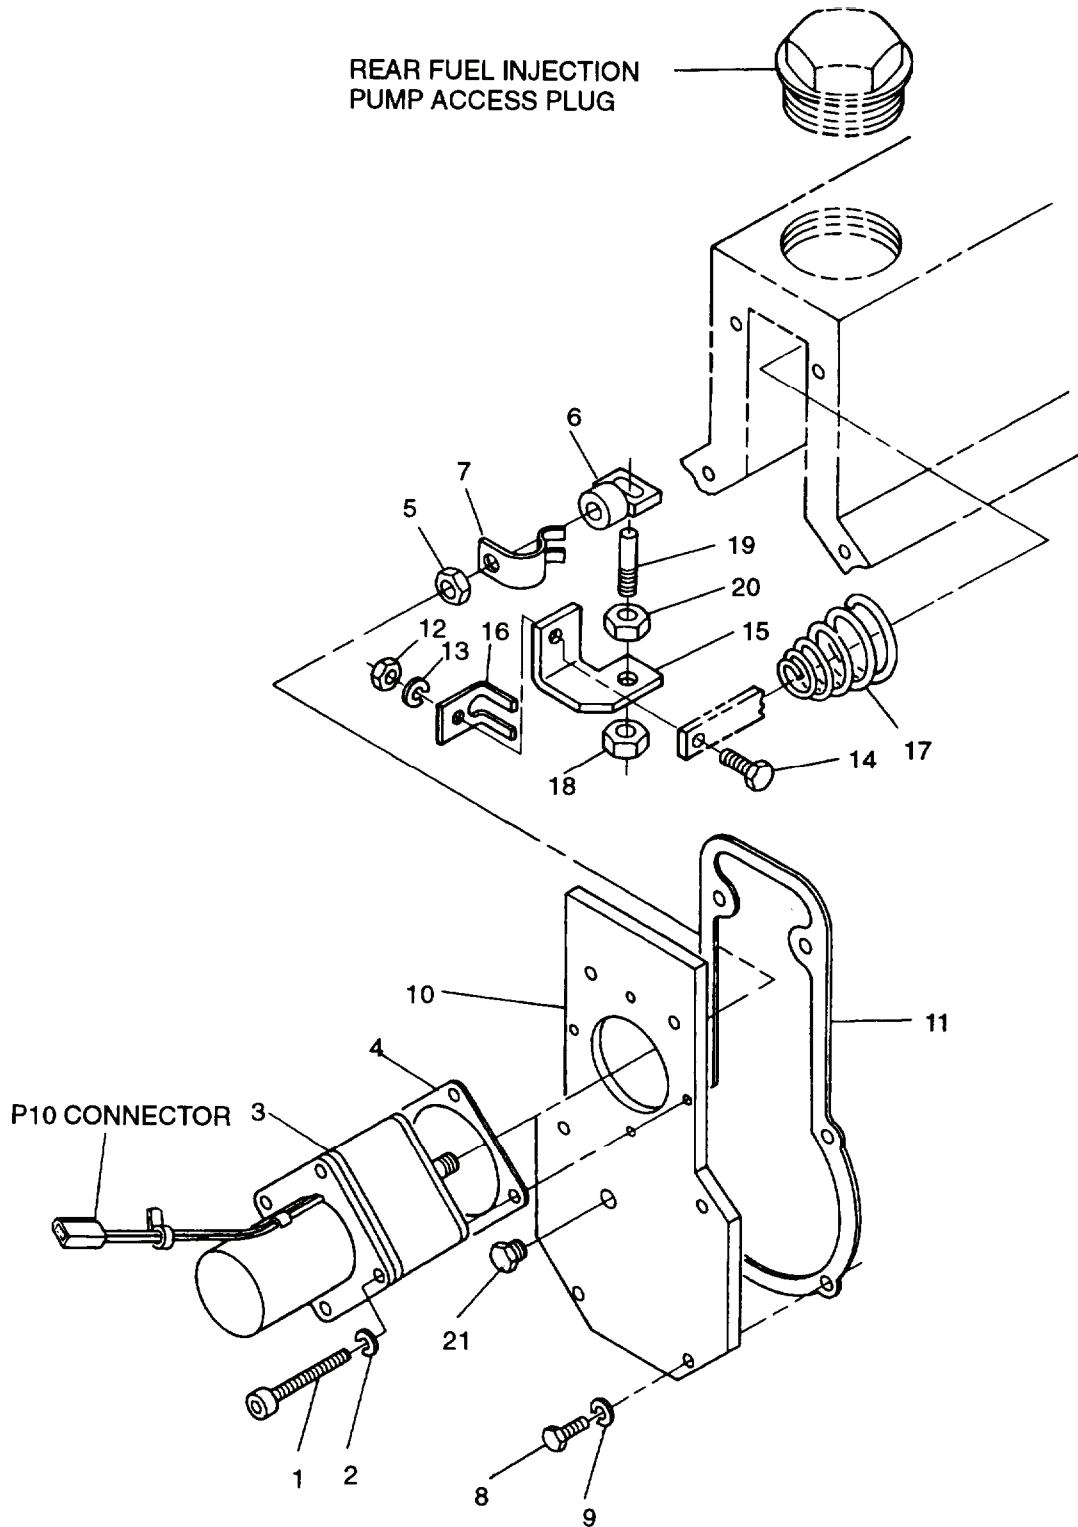

Figure 4-6. Governor Actuator Assembly – MEP-804A/MEP-814A.
- c. Open right side engine access door and disconnect connector P10 (Figure 4-6) from engine electrical harness.
- d. Tag and disconnect connector P10 (Figure 4-6) from engine electrical harness.
- f. Remove Allen head screws (1) and lock washers (2) securing governor actuator (3) to mounting plate (10). Discard lock washers (2).
- g. While looking through rear fuel injection pump access plug hole, tilt governor actuator (3) down so that clevis (6) clears stud (19) of injection pump rack linkage. Remove governor actuator (3) and gasket (4) from fuel injection pump.
- h. Loosen nut (5) and unscrew clevis (6) and retention spring (7) from governor actuator shaft.
- a. Install nut (20, Figure 4-6) onto stud (19) until only two or three threads are left exposed on stud shaft.
- b. Install stud (19) and nut (20) in bracket (15) and secure with nut (18).
- c. Install spring (17), spring retainer (16), and bracket (15) on injection pump rack lever (inside pump) with bolt (14), new lock washer (13), and nut (12). Torque nut to 48 in.-lbs (5.4 Nm).
- d. Apply sealant (Item 18, Appendix C) to both sides of gasket (11). Install gasket and mounting plate (10) on injection pump with bolts (8) (threads coated with sealant (Item 18, Appendix C)) and new lock washers (9). Torque bolts to 100 in.-lbs (11.3 Nm).
- e. Position clevis (6) within retention spring (7). Slotted flat end of clevis (6) is to be positioned between the two fingers of spring (7).
- f. Turn clevis and retention spring assembly onto shaft of actuator (3) so that side of hole (slot) in clevis (6) (closest to actuator face) is between 0.96 to 1.00 inch (2.43 to 2.54 cm) from face of actuator (3). Tighten nut (5) against clevis.
- g. Apply sealant (Item 18, Appendix C) to both sides of gasket (4) and position gasket on actuator